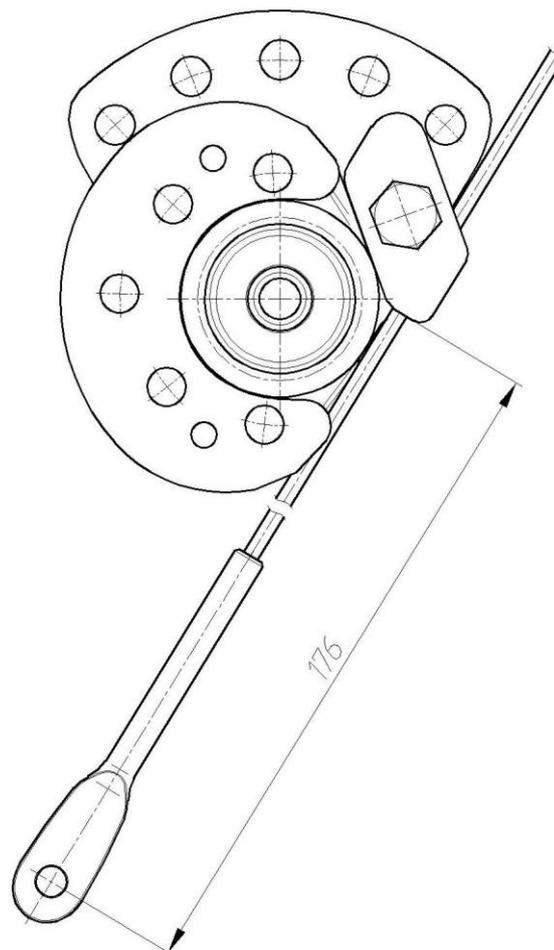

Fig. 5
3.3.2 Fix the control cables on the new control sectors (No. 1R and 1L) using the cleats as shown on fig. 5. (right-hand shown, left-hand – mirror view).